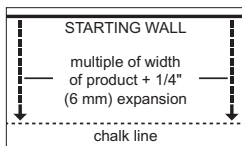

Figure 6
- In at least two places at least 18" (46 cm) from the corner, measure out equal distance from the starting wall (Figure 6) and snap a chalk line. The measurement must be the sum of the width of the flooring plus an additional 3/8" (9.5 mm) to allow for 1/4" (6 mm) expansion space and the width of the tongue. Allow 1/2" (13 mm) expansion when installing floating floors. Continue to Step 3; Staple or Glue or Floating (below).